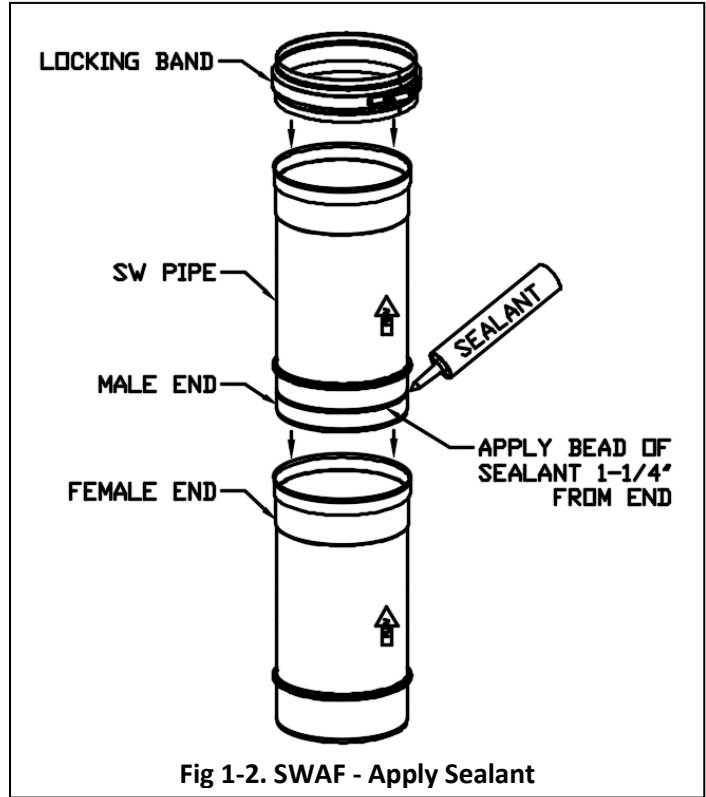

Fig 1-2. SWAF - Apply Sealant
Single-Wall Model SWAF joint system is designed for a quick and easy installation. See Figs 1-2 to 1-5.
3. Apply J- Sealant continuously (1/4" bead minimum) to the male end of the inner flue pipe. Sealant is to be approximately 1-1/4" from the end of pipe. (See Fig 1-2)
5. Position the Locking Band (LB) around the joint and ensure grooves in LB are seated in the Pipe grooves.